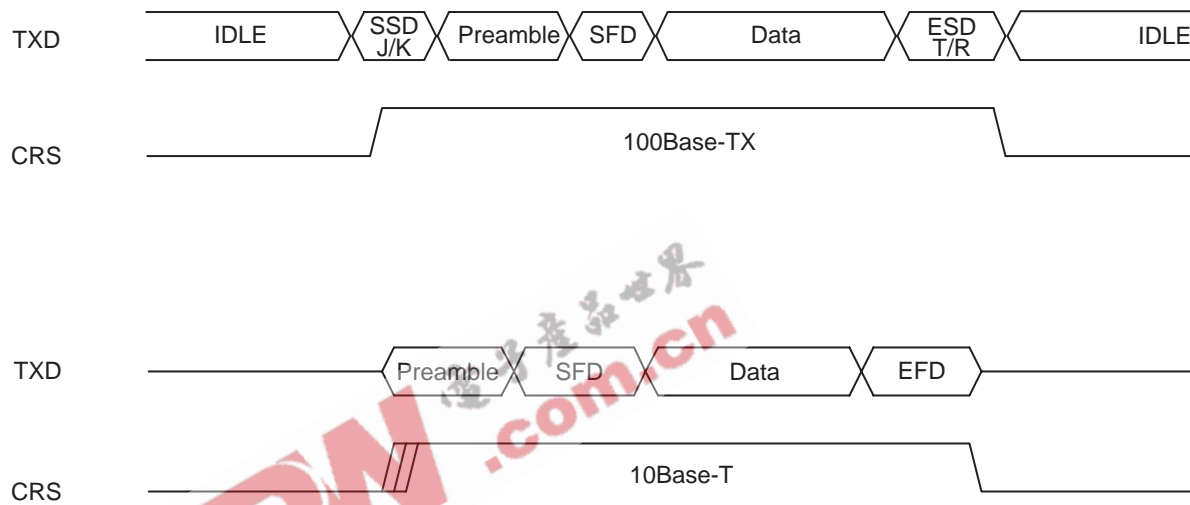

Figure 2. Carrier Sense during 10BASE-T and 100BASE-TX Transmission
- CRS (carrier sense) is asserted by the PHY when either the transmit or receive medium is busy. CRS is deasserted by the PHY when the transmit or receive medium are idle. Figure 2 depicts the behavior of CRS during 10BASE-T and 100BASE-TX transmission.